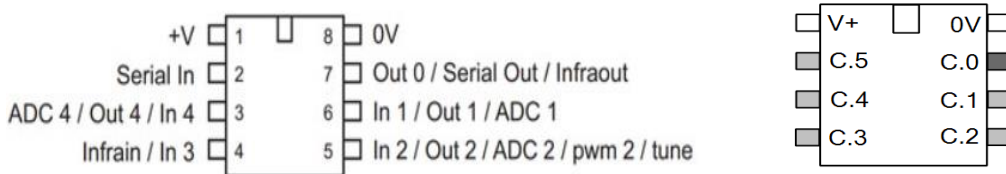

Figure 14 – Data sheet
The data sheet shown in figure 14 below, gives more information about the IC pinouts.
- b. In which of the following cases should the player 1 programme start? Refer to data sheet in figure 14. Underline the correct answer: **(2 marks)**